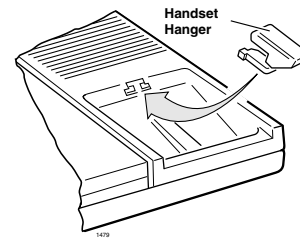

**Figure 9-4 IPT1020-SD Strap Connection Location**
The option straps on the IPT telephones must be cut when installing carbon handsets, external power or headsets. Refer to Table 9-5 and Figure 9-4 for further instruction.
4. Carefully remove the IPT10-SUB from the base unit by pulling back the plastic clips that hold it in place (see Figure 9-4).